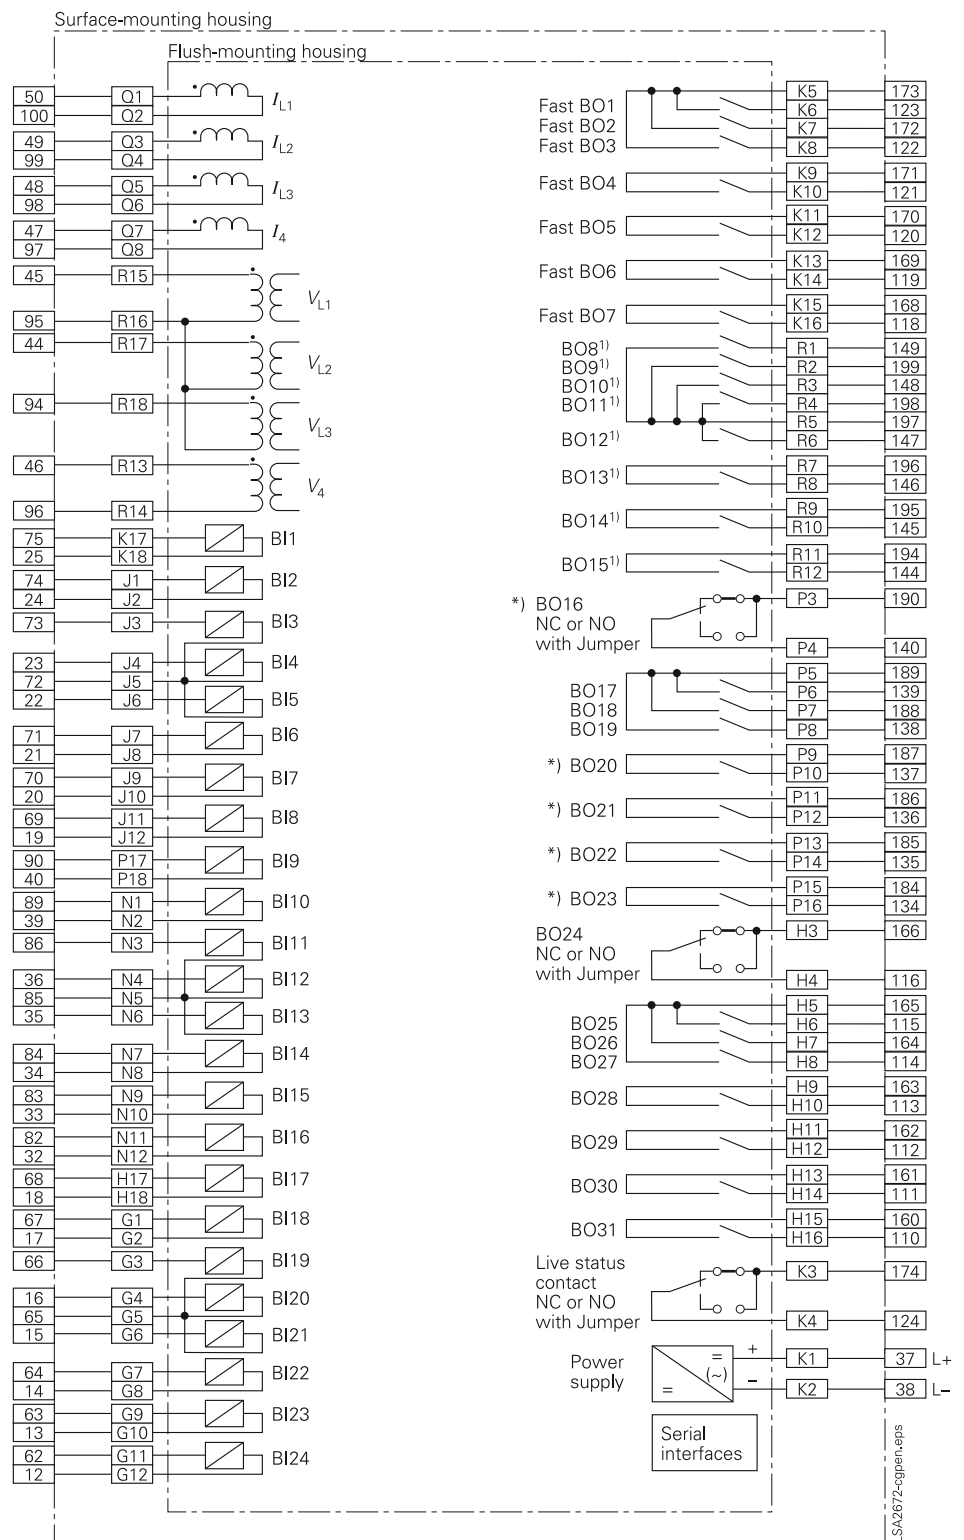

Fig. 7/88 Maximum version in housing 1/1 x 19"
1) Configuration of binary outputs until Hardware-version /EE. For advanced flexibility see Fig. 7/89.